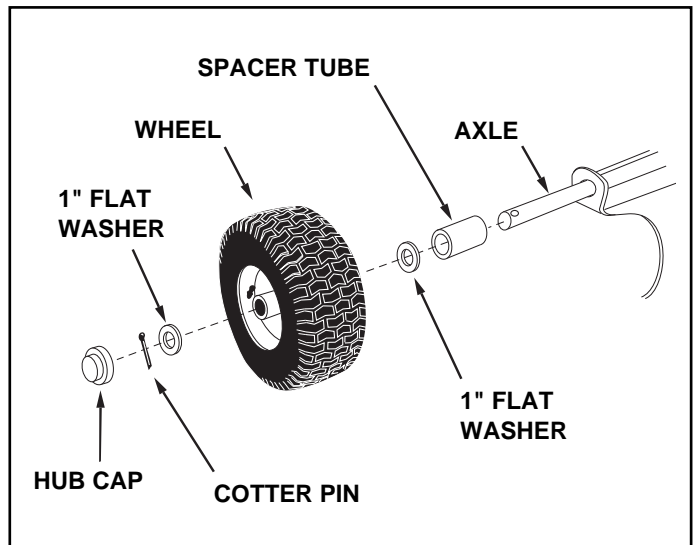

FIGURE 7
11. Assemble a spacer tube onto each end of the axle as shown in figure 7.
12. Assemble a 1" flat washer, a wheel (valve stem facing out), and another 1" flat washer onto the axle as shown in figure 7. Secure the wheel with a cotter pin, spreading the ends so that a hub cap can fit over the pin. Assemble the hub cap by pressing it onto the flat washer. Repeat on other end of axle.